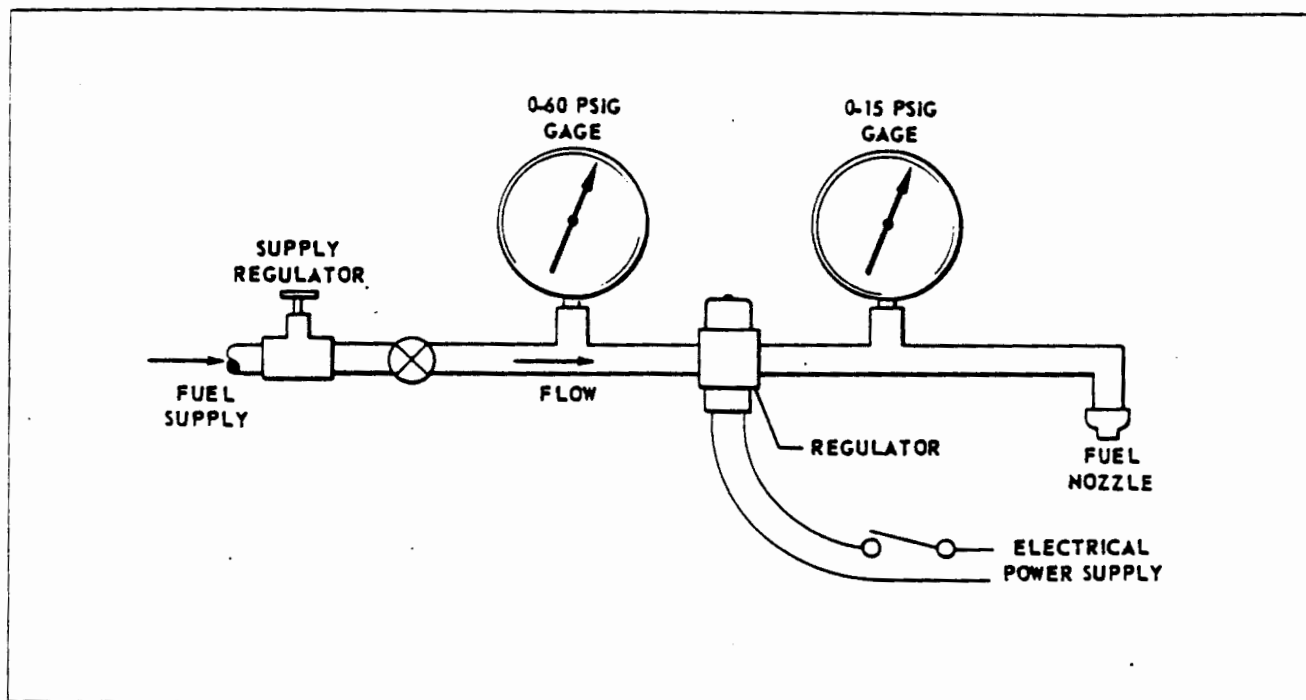

Figure 21-14. Test Setup for Fuel Regulator and Shutoff Valve
1. Install the regulator in a test stand similar to that shown in Figure 21-14.